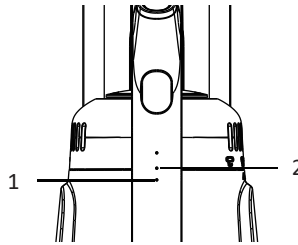

Fig. 2
3. The light indicator show the status (Fig 2):
- Light indicator 1(Fig 2) will flash when the battery is running low and needs to be recharged, If recharge not started, the vacuum will power off.